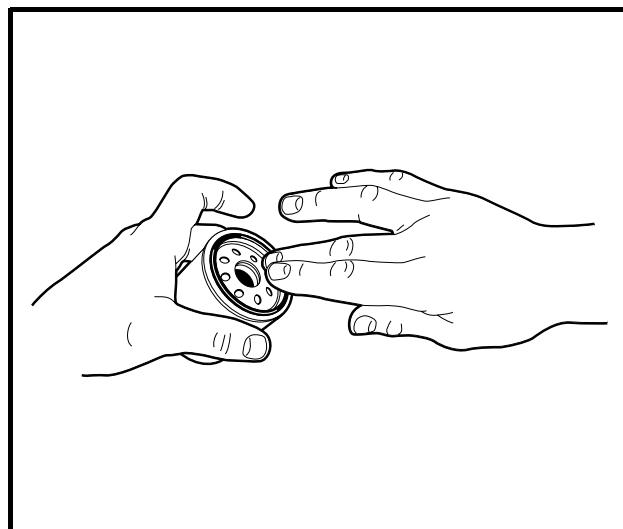

Figure 30 Coat Oil Filter Rubber Seal
11. Install a new oil filter (Husqvarna 603 00 00-06) onto the engine oil filter port. Apply a light coat of white lithium NLGI Number 2 grease (Dow Corning® BR2-Plus or equivalent) or new engine oil to the rubber seal around the outside surface of the filter before attaching it to the oil filter port (**Figure 30**). This will help seal the filter to the oil mounting bracket.